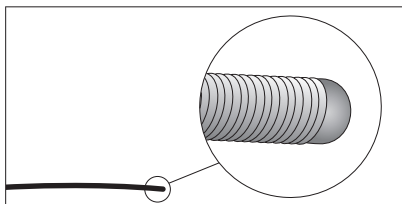

Figure 8
33. Examine tip of placement wire after removal to ensure wire has not been altered (refer to Figure 8).